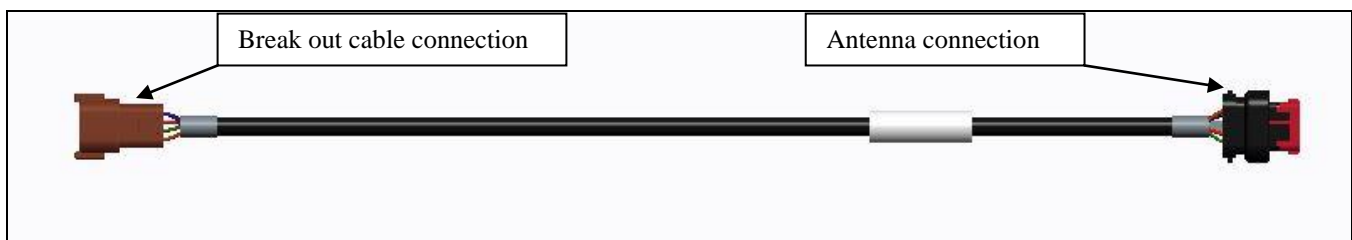
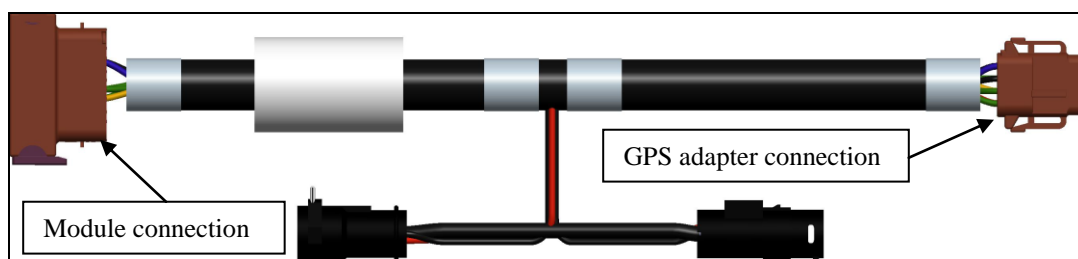

Figure 13. GPS adapter
Figure 14. GPS breakout cable
5. Install the GPS receiver at the top of the receiver arm as shown in Figure 9. and use the appropriate cable to connect the GPS receiver to GPS breakout cable. Figure 13. shows an example of a receiver cable and Figure 14. shows the GPS breakout cable.